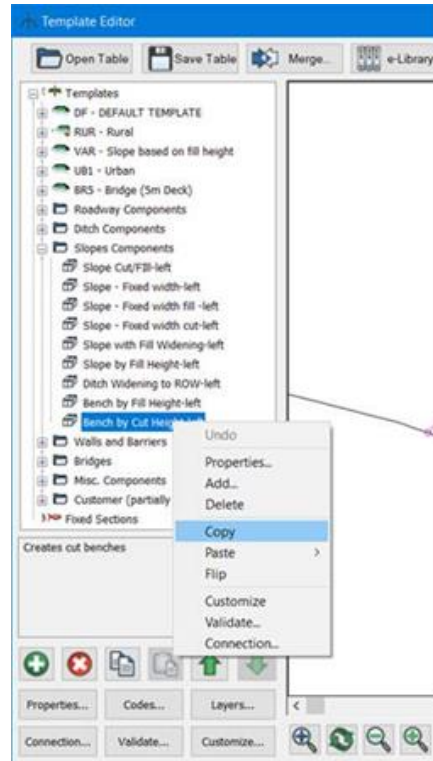

Figure 12-7: Copying a Component from a Folder
24. Scroll down the template tree list and open the  *Slopes Components* folder (Figure 12-7).